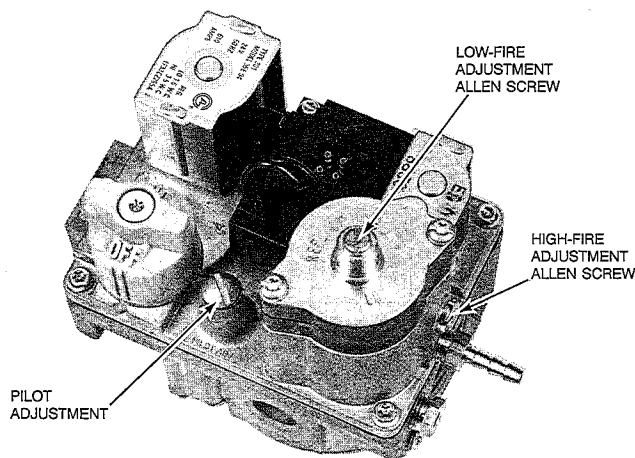

Fig. 23—Redundant Automatic Gas Valve
- (1.) Locate adjustment screw marked “PILOT ADJ” on top of gas valve. (See Fig. 23.)
- a. Remove burner enclosure front and low-fire regulator adjustment seal cap. (See Fig. 23.)
- d. After unit switches to high fire, remove high-fire regulator adjustment seal cap. (See Fig. 23.) Setup switch No. 3 on the microprocessor control board may be placed in the ON (up) position to provide continuous high-fire operation if desired. (See Fig. 11.)